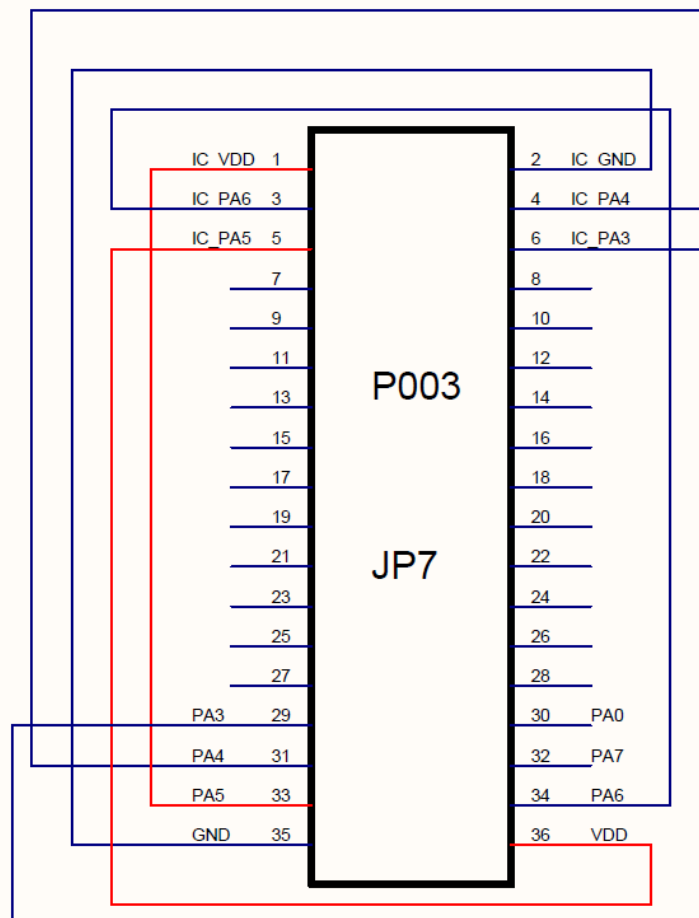

Fig.27: schematic diagram of PMS163-S08 Jumper7 when using P003
2. As shown in figure 27, it is the Jumper7 connection method.